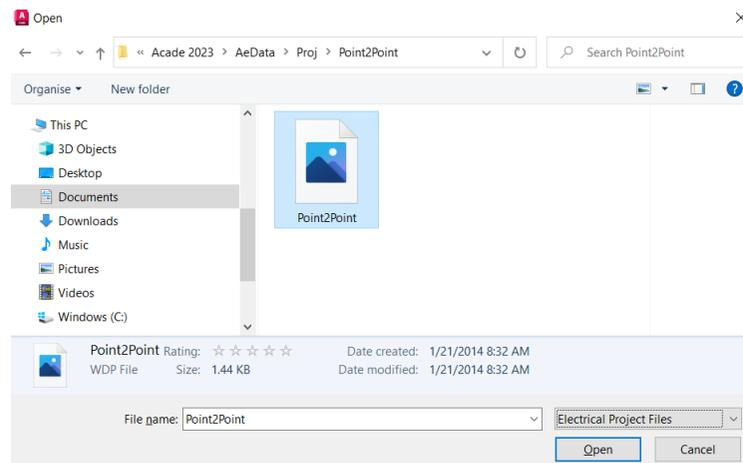

Figure 2-72 The Open dialog box
2. In this dialog box, choose the **Browse** button located next to the **Enter existing project path** edit box; the **Open** dialog box is displayed. In this dialog box, select the *c:\Users\User Name\Documents\Acade 2023\AeData\proj* folder and then double-click on the **Point2Point** folder. Next, select the **Point2Point.wdp** file, refer to Figure 2-72. Now, choose the **Open** button; path of the *Point2Point.wdp* file is displayed in the **Enter existing project path** edit box.